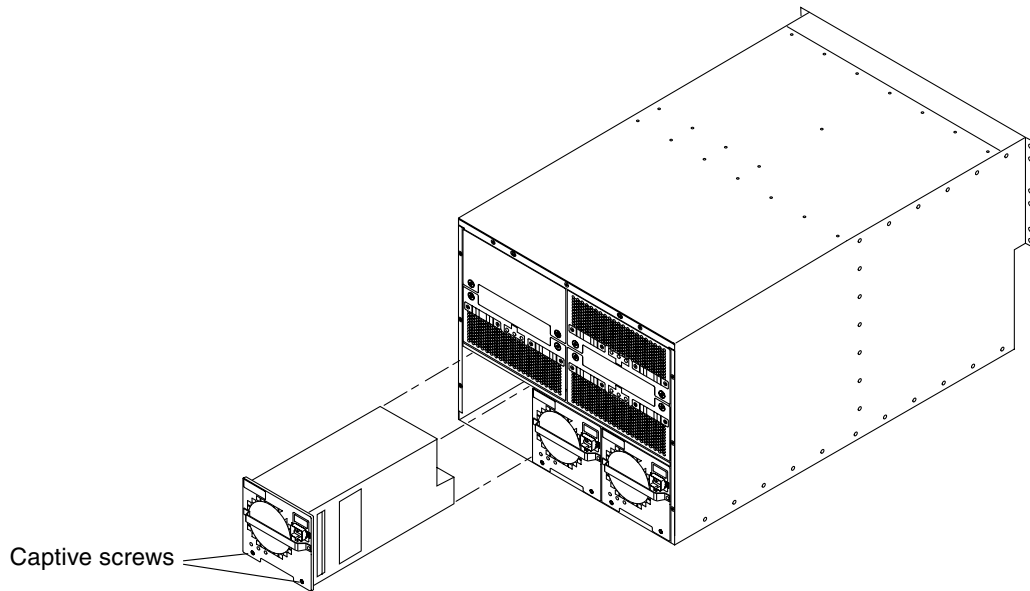

FIGURE 4-8 Removing or Replacing a Power Supply—Sun Fire 3800 System
4. Loosen the two captive screws (FIGURE 4-8).